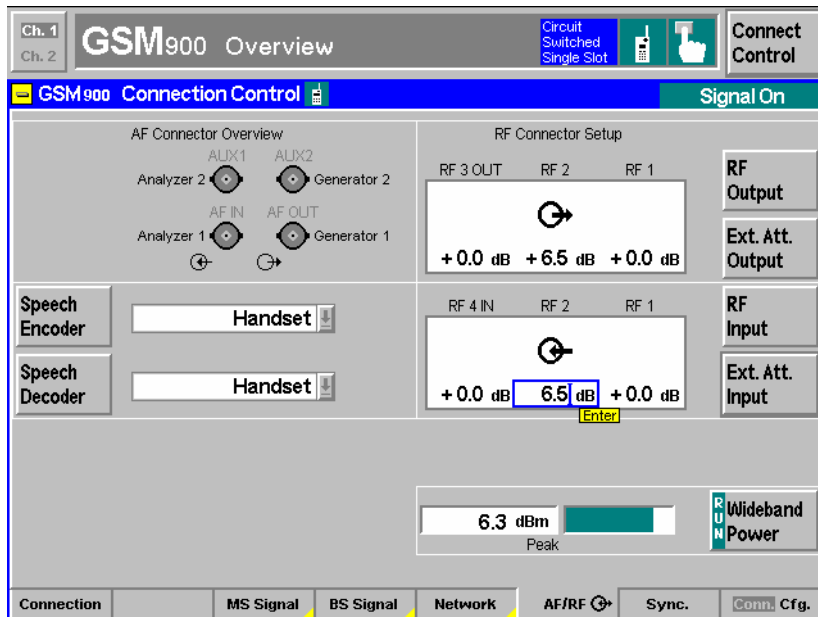

Fig. 4 GSM900 Signalling: AF/RF  tab
- Press the *Connect. Control* softkey and the *AF/RF* hotkey to report the coupling factors to the R&S® CMU 200. Set the *Ext. Att. Output* equal to the output coupling factor and the *Ext. Att. Input* equal to the input coupling factor (see Fig. 4 below).